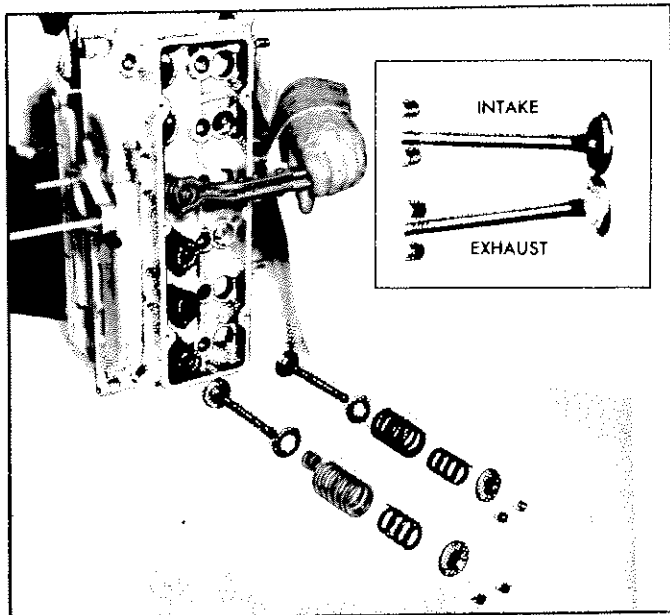

Fig. 79—Compressing Valve Springs
- Place cylinder head assembly on end and using Tool J-8062, with off-set jaws, compress valve spring, then remove valve locks (fig. 79).